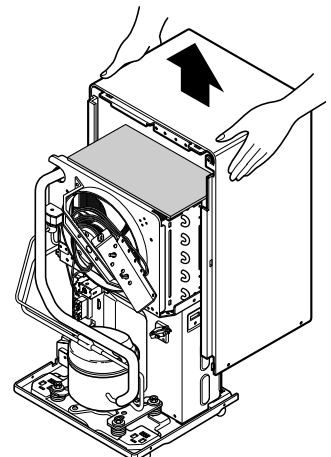

Figure 8
4. Lift the cabinet from the base. (See Figure 8)